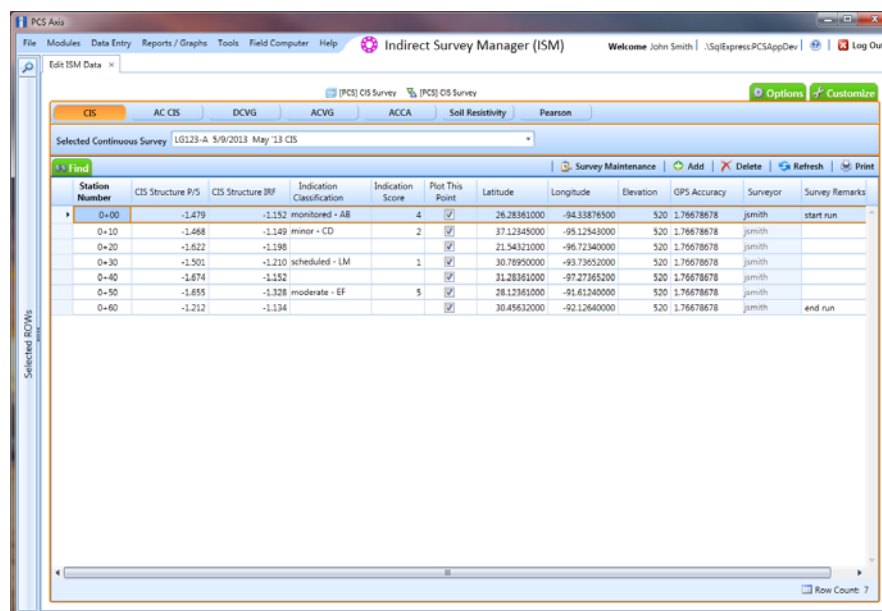

Figure 6-47. Edit ISM Data
- 3 Open the ISM data entry grid. Click **Data Entry > Edit ISM Data**. Then click a button labeled with the type of continuous survey you want to work with, such as the **CIS** button  (Figure 6-47).